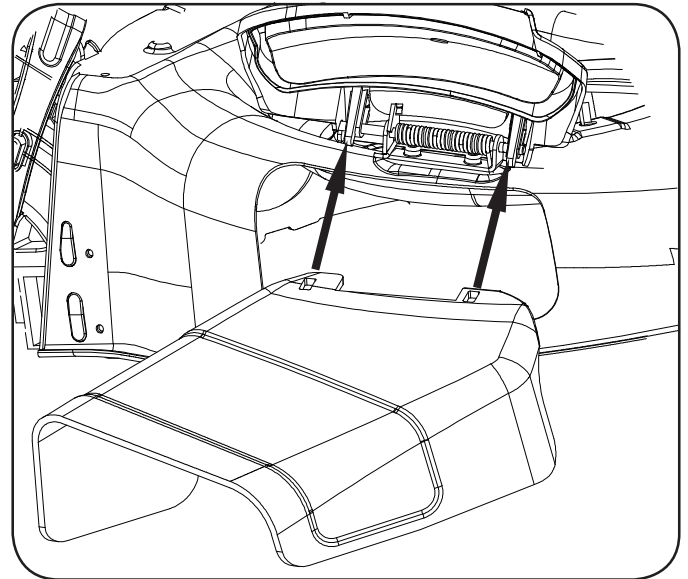

Figure 8
- b. Slide two hooks of side discharge cover under hinge pin on mulching cover assembly (Figure 8).